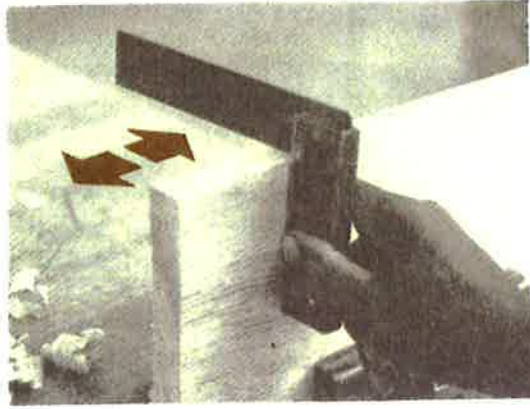

Fig. 10-9. Testing an edge for squareness.
4. Test the edge with the face for squareness (Fig. 10-9).